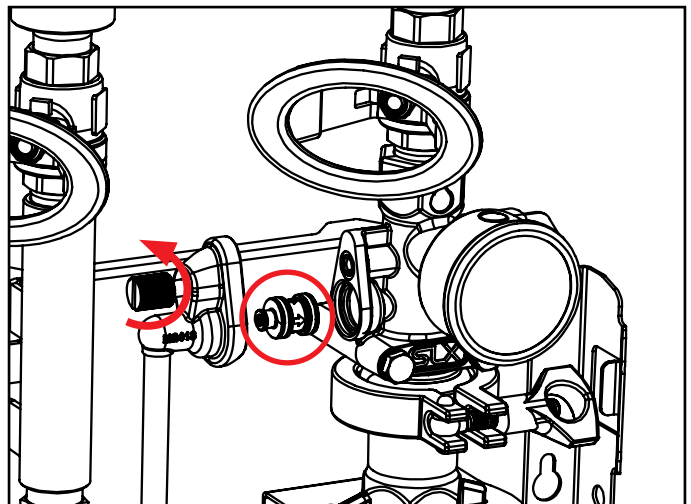

Fig. 10.2: Chemical inlet check valve removed
5. The check valve will be seated either inside of the elbow or the body. Grab it and pull to remove. [Fig 10.2]